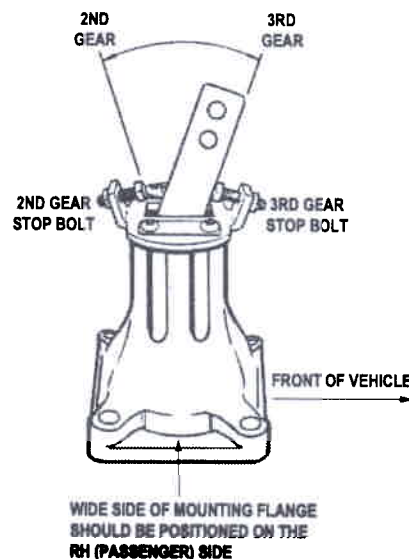

FIG. 2
12. Turn adjuster bolts located in stop bolt frame so that heads are away from shifter stick. Pull stick firmly into 2nd gear and hold securely. Back rear stop bolt out until head contacts stick. Hold bolt secure with wrench and tighten jam nut. (Refer to Fig. 2) Repeat adjustment on forward stop bolt. Push stick firmly into 3rd gear, and hold securely. Back forward stop bolt out until head contacts stick. Hold bolt secure with wrench and tighten jam nut.